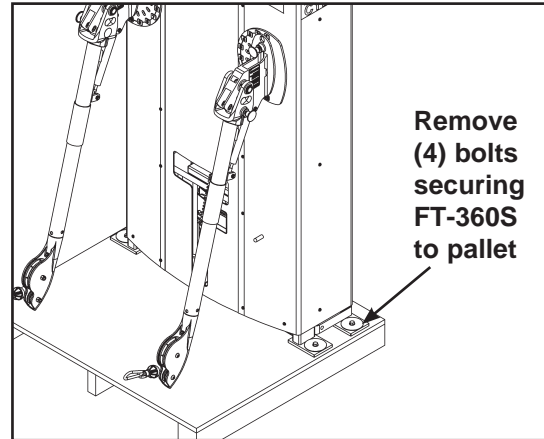

Figure 1
- A. Remove the four bolts securing the FT-360S to the pallet. See Figure 1.